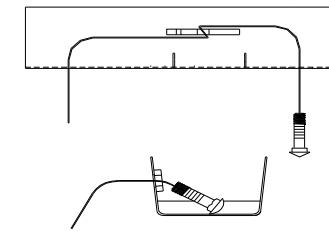

Figure 2 Fishwire Technique
- Lower exhaust by removing the (2) 8mm bolts from the hanger bracket on both sides of the vehicle.
- Fishwire the 7/16" carriage bolts and spacers through the enlarged access hole and out the two side mounting holes in the frame rail, leave fishwires attached. See Figure 2.
- Sandwich (4) .25" x 1" x 1.5" spacers between hanger bracket and frame rail on both sides, and reattach the hanger bracket with the M8 bolts in fastener kit. Make sure the holes on hanger bracket and spacers line up for the bolt to go through.
1. Lower exhaust by removing the (2) 8mm bolts from the hanger bracket on both sides of the vehicle.
3. Fishwire the 7/16" carriage bolts and spacers through the enlarged access hole and out the two side mounting holes in the frame rail, leave fishwires attached. See Figure 2.